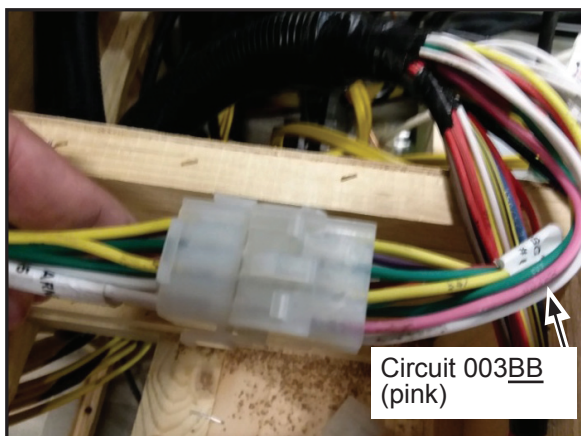

Figure 12
- b) The second scenario would be that the 003BB circuit (pink wire) is still intact and pinned into the original connection labeled "To Misc Harness Conn #5". See Figure 12.